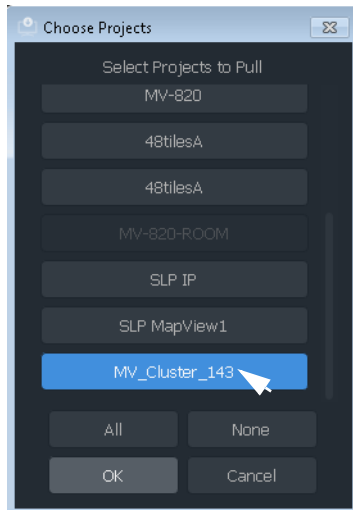

Fig. 15-17: Choose Pull
- 2 Ensure that the project Repository to be pulled is selected (highlighted in blue) in the dialog. See Figure 15-17.